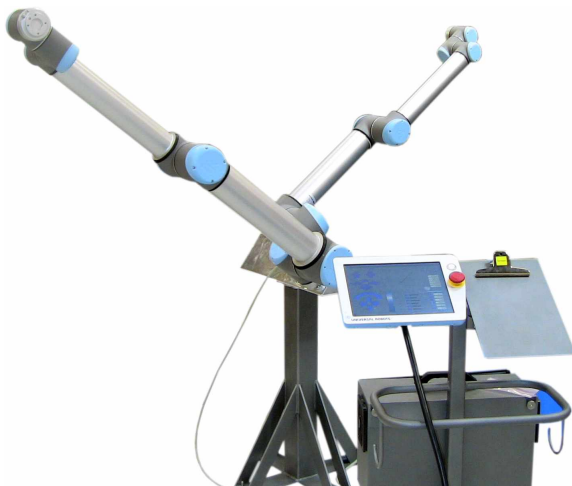
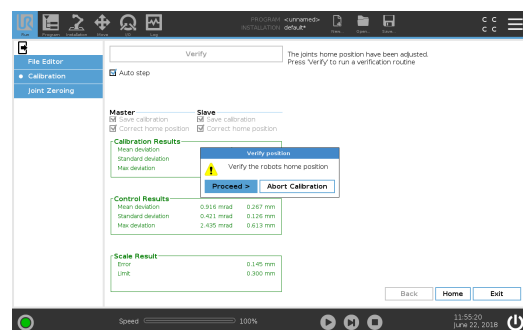
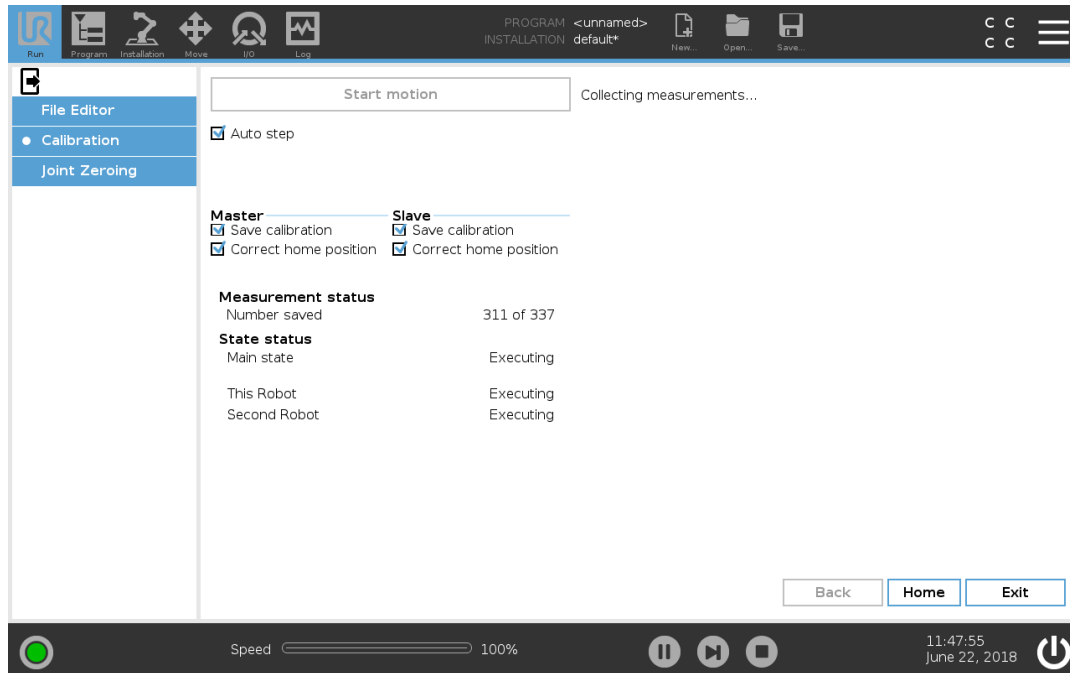

Figure 2.29: Verify the robots' new Home Position
Figure 2.30: Tap **Proceed** if the verification in Step 30 is successful
Figure 2.31: Kinematic Calibration is done
Secondly the robots move to their new calibrated Home Position. It is important that the robots are fully stretched out and the tools are pointing in the right direction, like in Figure 2.29. After Step 31 the Dual Robot Calibration procedure is complete, (see Figure 2.31).
- (30) Verify the robots' Home Positions, see 2.29.
- (31) If Step 30, tap **Proceed**, (see Figure 2.30).
- (32) Save the calibration.
- (33) Once the calibration is done, tap **Exit**, (see Figure 2.31).